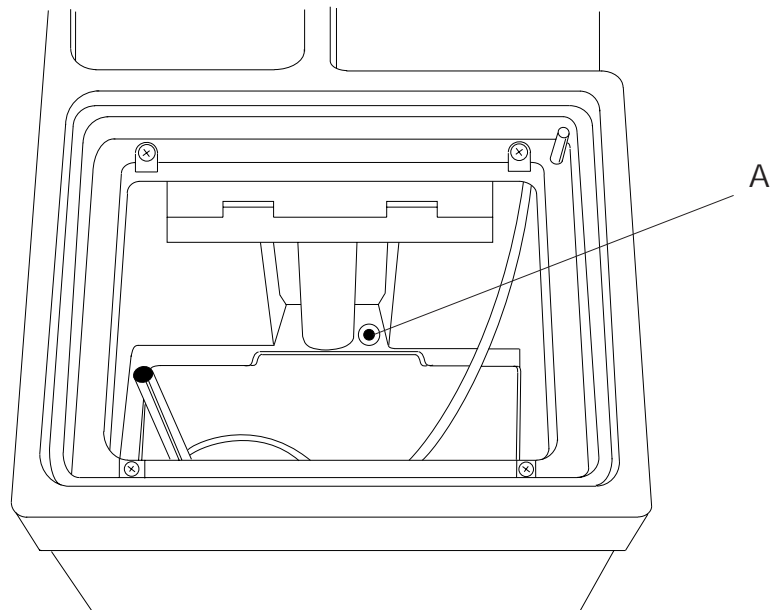
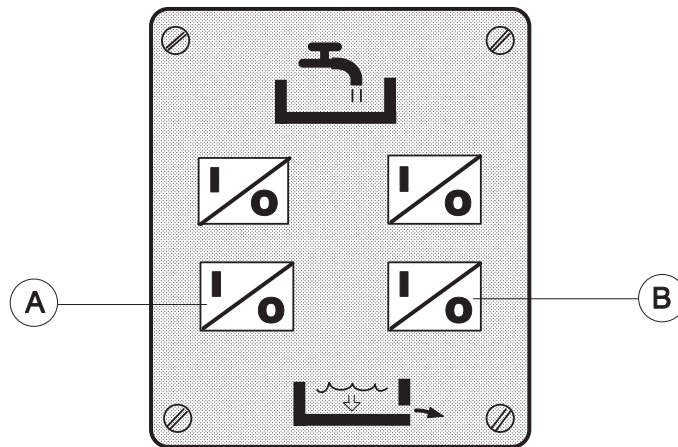

figure 21: Mixing tank
figure 22: Pump buttons
4. Start the circulation pump by pressing the relevant pump button (A and/or B of figure 22).
The pump will *automatically* stop when the low level is reached (buzzer will sound intermittently). Start the circulation pump (A and/or B of figure 22) again. The buzzer will stop, and the transfer valve to the holding tank will be opened.
5. When the mixing tank is empty, block the mixing tank outlet (A of figure 21), situated at the bottom of the mixing tank with any suitable stopper. This will help the pump to drain the holding tank by preventing air from entering the pump.
6. When the holding tank is empty as well, switch off the respective circulation pump by pressing the relevant pump button (A and/or B of figure 22) and remove the stopper from the mixing tank outlet (A of figure 21).